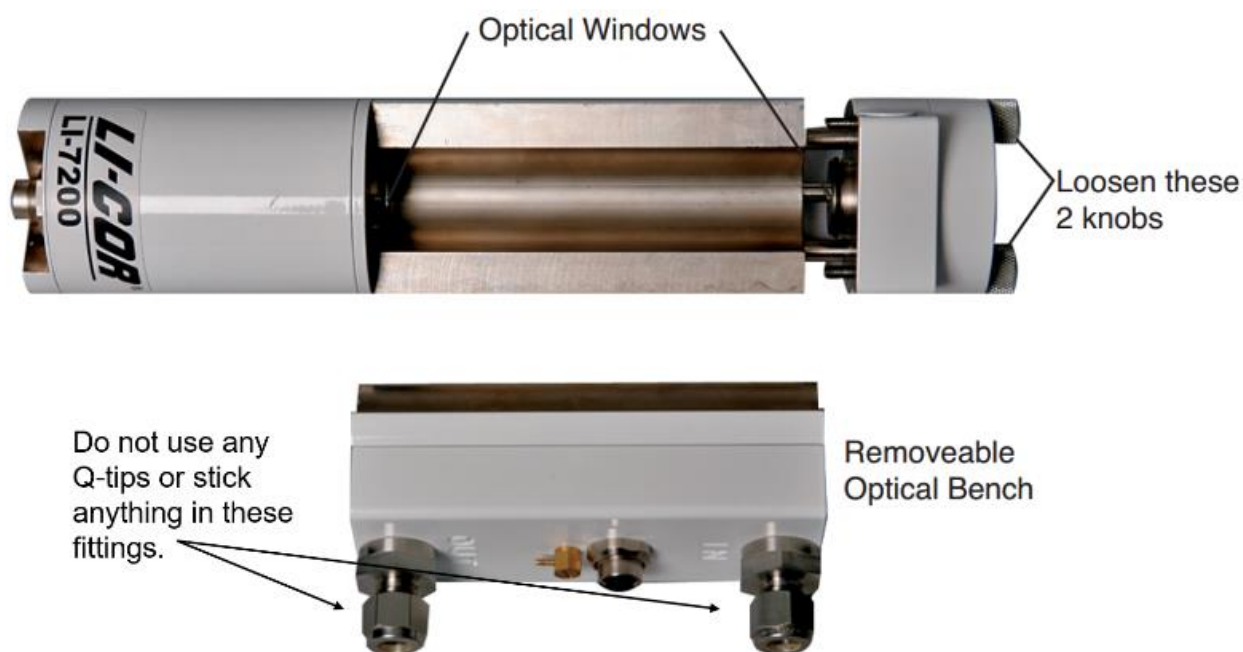

Figure 74. LI-COR LI-7200/RS Optical Window Location and Access.
7. Loosen the two knurled knobs on the top of the LI-7200/RS sensor head, and then pull the top of the sensor head out away from the optical bench (see **Figure 74**).
8. Conduct the following preventive maintenance procedures to clean the LI-7200/RS optical path in **Figure 74**.